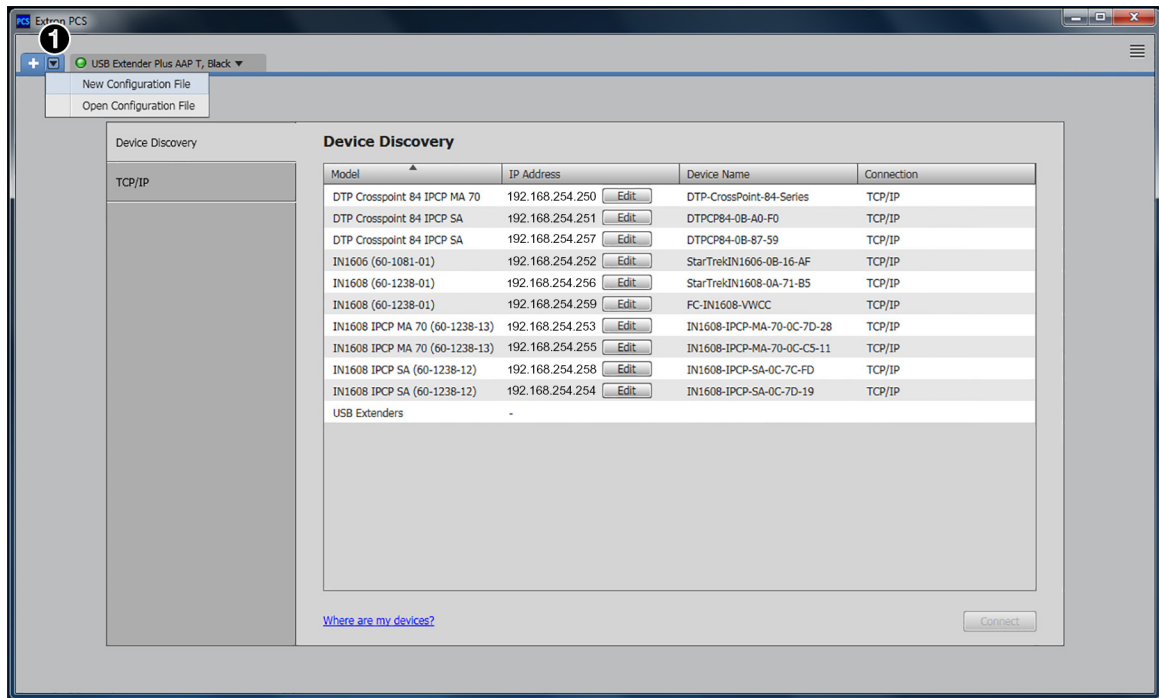

Figure 25. Selecting New Configuration File on the PCS Window
- On the Extron PCS window, click the down arrow button in the upper-left corner (see figure 25, ❶) to display the configuration drop-down menu. Select **New Configuration File** from this menu.